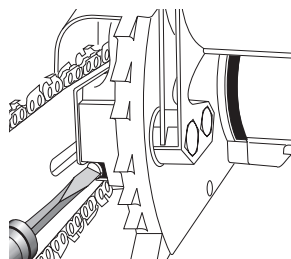
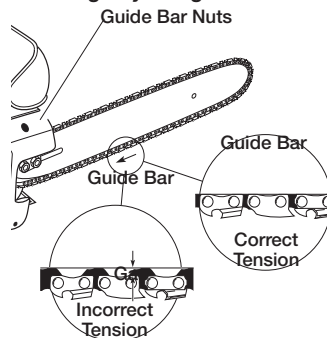

Figure 6 - Turning Adjusting Screw
Figure 7 - Saw Chain Adjustment
2. Turn adjusting screw clockwise. (see Figure 6). Note: There should be no gap between side links of chain and bottom of guide bar (see Figure 7).